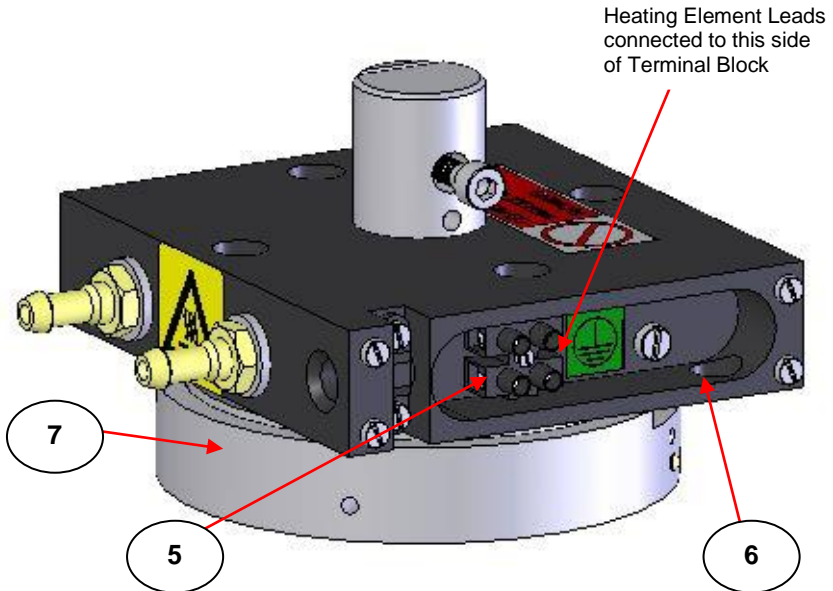

**Fig 1. Top and Bottom Atlas™ Heated Platen Assemblies**
The following procedure can be adopted for replacement of a heating element in either the top (1) or bottom (2) heated platen assembly of the Atlas™ Heated Platens. (See Fig 1).